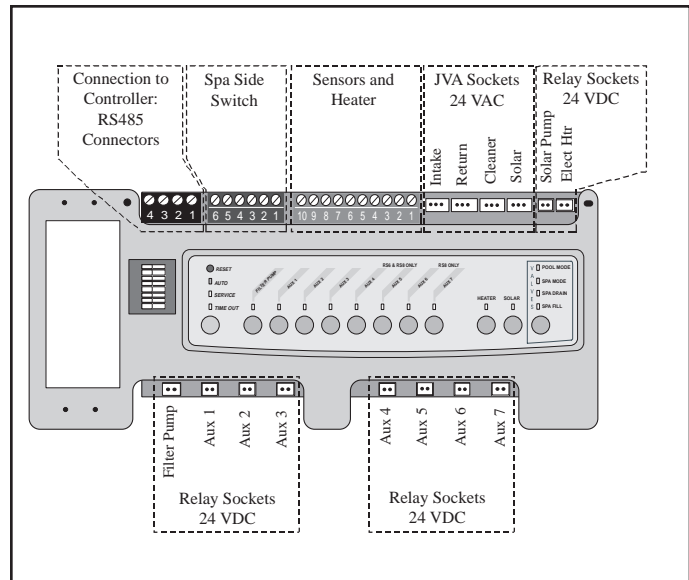

Figure 27. PCB Board with Firmware REV MMM or Lower
To provide “smart” communication between the LXi and an AquaLink RS PCB Board through a red four-pin RS485 connector, your PCB firmware must be Rev N or higher, as shown in Figure 28. To determine the REV of the PCB firmware in your system, refer to Table 7 as well as Figure 27 and Figure 28.
If your PCB firmware is REV MMM or lower, as shown in Figure 27, connect the heater to the control as indicated in *Section 6.5.2*.
**NOTE** Only an RS System with firmware revision "N", or higher, will support the LXi heater interface. Refer to Table 7, Figure 27 and Figure 28 to determine the REV of your system's firmware. If it is "N" or higher, continue with these procedures. If it is MMM or lower, follow the procedures in *Section 6.5.2*.
4. The wires coming from the LXi heater can be “doubled up” on the red terminal bar with the four (4) wires coming from the indoor controller.
**NOTE** If you need to install more than two (2) wires in each terminal, order a Zodiac Multiplex PCB Kit, which includes the Multiplex Board (Zodiac part # 6584). Never put more than two (2) wires into each of the pins of the terminal bar.